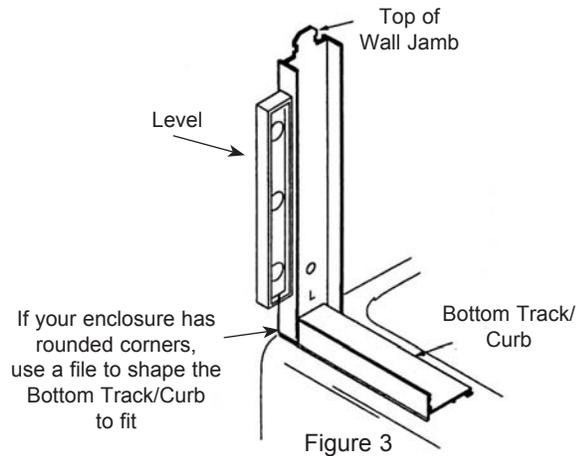

Figure 3
- B. Place the left Wall Jamb (#3L) against the left wall and slip/snap the bottom of the Wall Jamb (#3L) over the Bottom Track/Curb (#2). Use a Level held against the side of the Wall Jamb (#3L) to align it vertically straight up and down as shown in Figure 3. Use a Pencil to mark the position